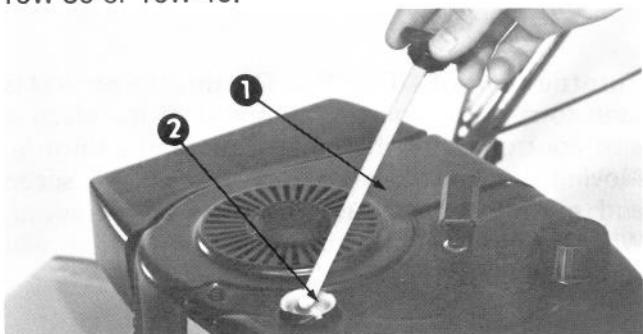

Figure 5
3. Remove dipstick by rotating cap counterclockwise 1/4 turn (Fig. 5).
5. Wipe end of dipstick and insert it into filler neck. Rotate cap clockwise 1/4 turn. Then remove the dipstick and check level of oil by reading the dipstick (Fig. 5). If level of oil is low, add only enough oil to raise level to FULL mark on dipstick. **DO NOT ADD OIL SO LEVEL RISES ABOVE FULL MARK BECAUSE ENGINE COULD BE DAMAGED WHEN IT IS STARTED.**